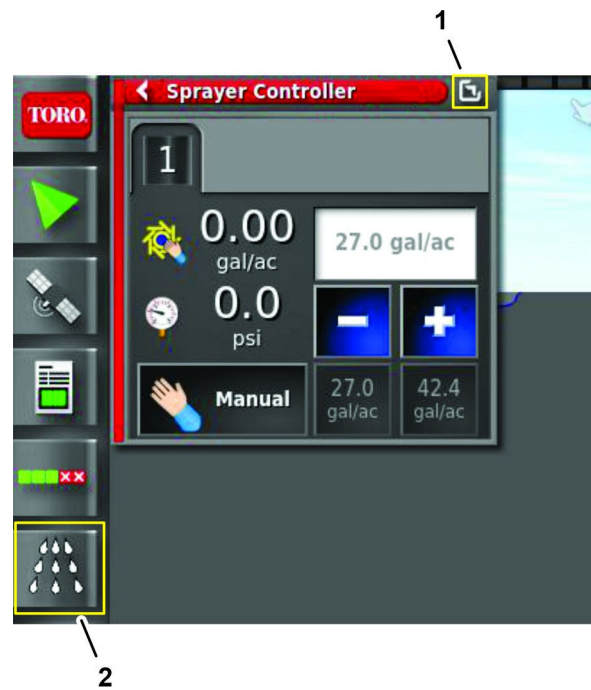

Figure 166
1. On the command console, press the SPRAY RATE CONTROLLER icon, and press the full screen icon in the upper right corner of the sprayer controller (Figure 166).